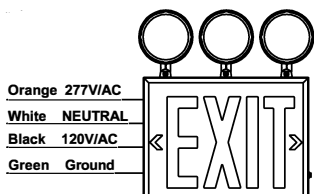

Fig 5
- Make proper electricals connection, black lead is for 120V, red lead is for 277V, white lead is NEUTRAL, green lead is for ground, push excess wire into J-Box (see Fig 5).
- Make proper electrical connection, black lead is for 120V, red lead is for 277V, white lead is NEUTRAL, green lead is ground, secure excess wire into J-Box (see Fig 5).